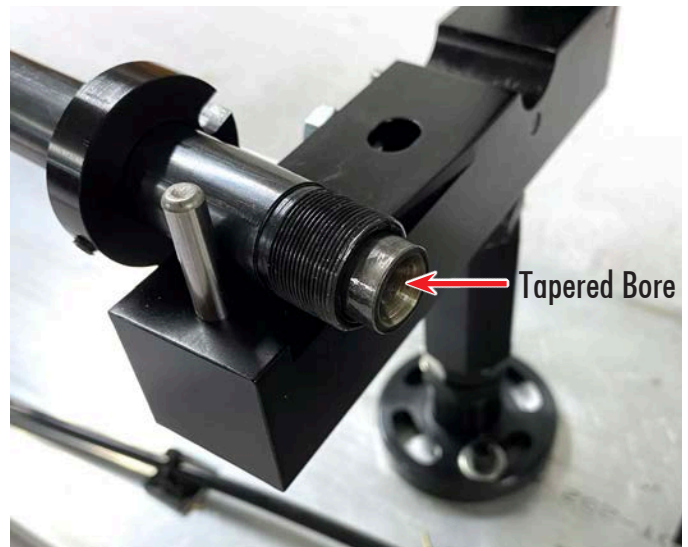

FIGURE 47
- E. Insert the stock pusher into the front of the bar feeder tube with the tapered bore end facing out towards the machine (see Figure 47).